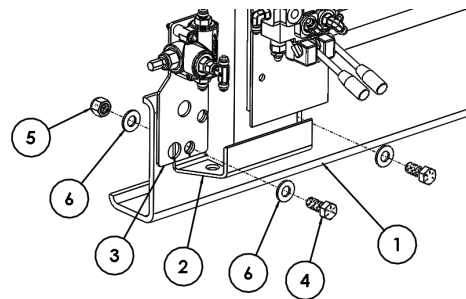

Figure 1.3
Position the relief valve assembly (3) as shown and insert hardware. For C-Channel frame installations, use the bottom two holes with 5/8" grade 8 bolts (4), nuts (5), and washers (6). In most roll-off applications all 4 bolt holes are used on each side. (Figure 1.3)